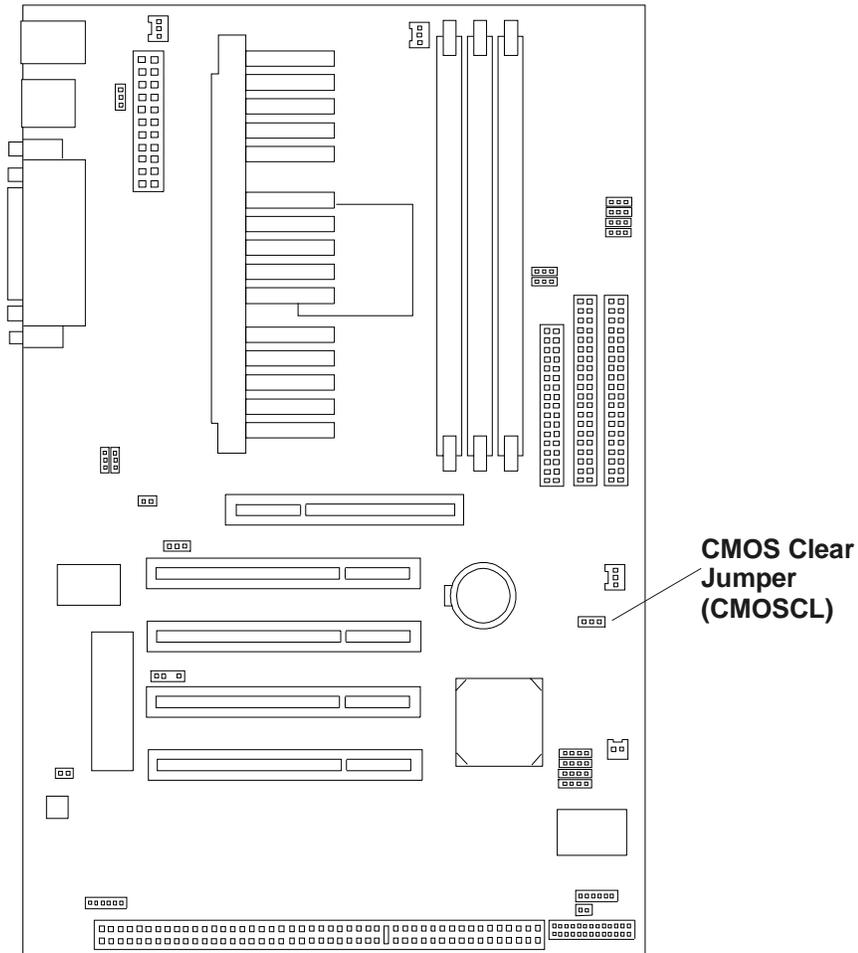

Figure 8-1. CMOS Clear Jumper location
3. On the system board, locate the CMOSCL jumper. See Figure 8-1.